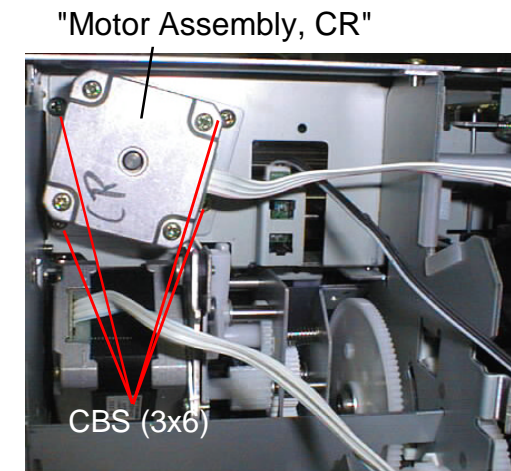

Figure 4-29. Motor Assembly, CR Removal
3. Remove 4 CBS screws(3x6) securing "Mounting board, CR" to "Frame, Main, Rear", and remove "Motor Assembly, CR" with "Mounting board, Motor, CR". (Refer to Figure4-29)